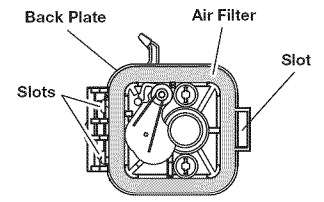

Fig. 19
- Remove the air filter (Fig. 19).
- To reinstall the air filter cover, position the hooks on the left side of the air filter cover into the slots at the left side of the back plate (Fig. 19).